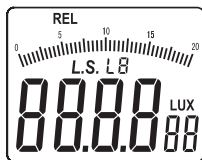

Figure 5-1-2A
- Press and hold REL/PEAK key for a short time (composite key for relative/peak value measurement), “REL” will appear on the top left position of the LCD interface (as shown in figure 5-1-2A), and the device will enter the relative value measurement mode.